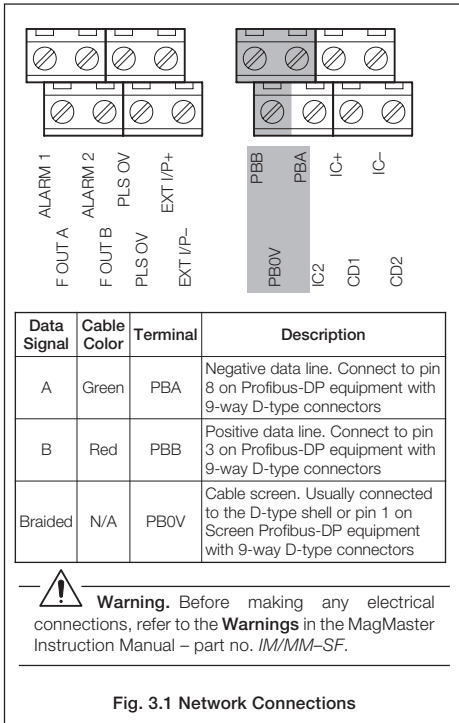

Fig. 3.1 Network Connections
3.1 Network Connections – Fig. 3.1